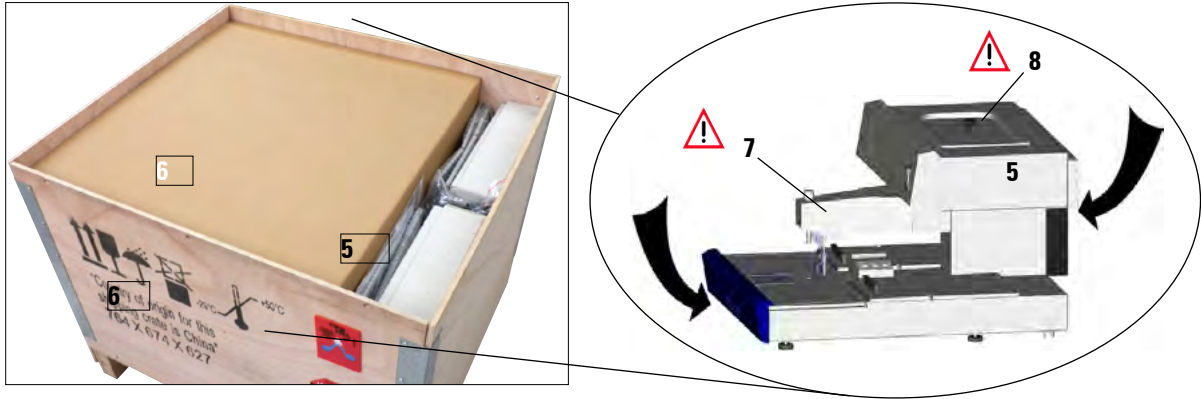

Fig. 5
4. In order to lift the instrument (5) take hold of it only at the lower housing base in the front and rear (arrow in the detail for Fig. 5) and lift it off of the bottom pad and out (6).